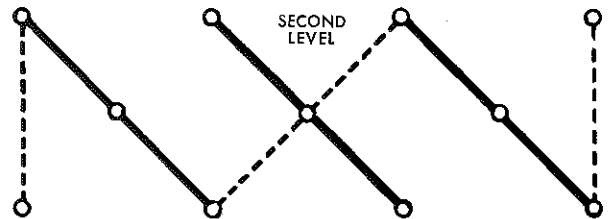

FIGURE 3
□ Set the three 3-hole braces on top of the first level so that the end holes line up. This is the second level. (Fig. 3)